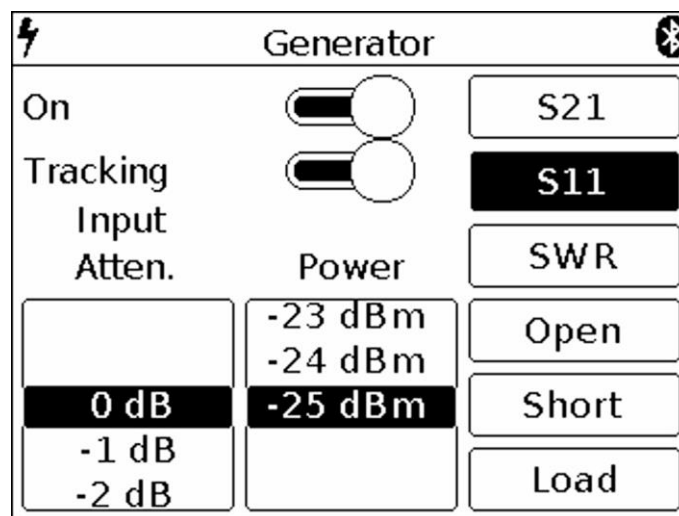

Figure 18 – Turning on S11 mode
7.7.1. To measure the reflection coefficient, it is necessary to select the **S11** mode (Figure 18).
7.7.4. Select the mode **S11** in which you want to measure, as shown in figure 18. On the screen under the grid, the information label will display the mode **S11** and the warning **UNCAL (not calibrated)**.